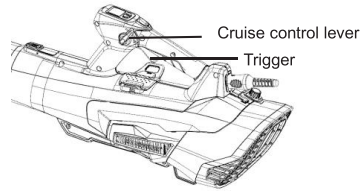

Fig. 20
3. The blower can be locked at any speed with cruise control lever (Fig 20).